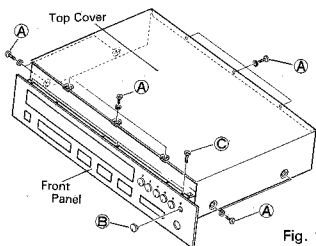

Fig. 1
- Remove the 10 screws **A** (3 × 8 bind head screw) and remove the top cover by lifting it up. (Refer to Fig. 1)
- Pull the 6 knobs **B** out from the shaft of the each variable resistor. (Refer to Fig. 1)
- Remove the 3 screws **C** (3 × 8 bind head screw). (Refer to Fig. 1)